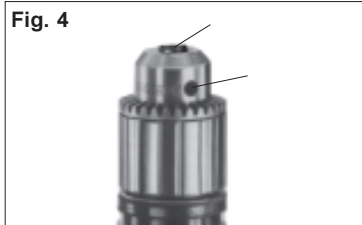

Fig. 4
**Installing Bits into Keyed Chucks (Fig. 4)**